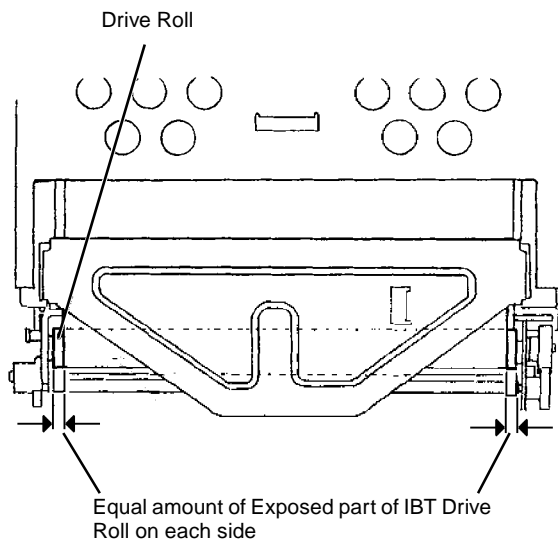

Figure 11 Positioning Transfer Belt
2. After installing Transfer Belt, move it to center of IBT Frame so that exposed parts of IBT Drive Roll should be equal (Figure 11).